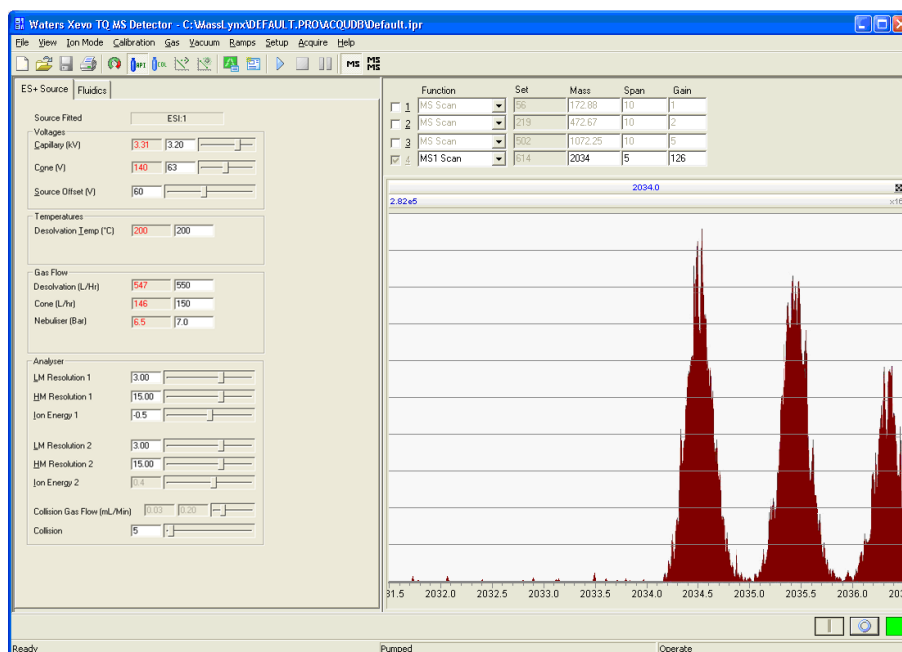

Figure 52 - Tuning for high mass resolution
4. Set the initial source parameters as shown in Figure 52.